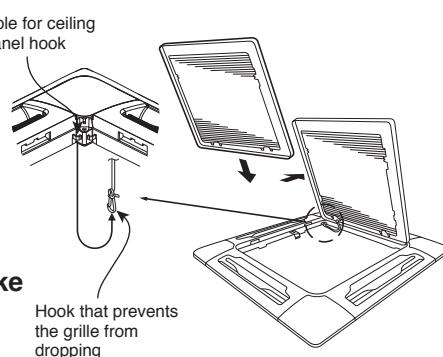

Fig. 6-24
- Be sure to attach the safety cord that prevents the air-intake grille from dropping off to the ceiling panel unit as shown in Fig. 6-24.